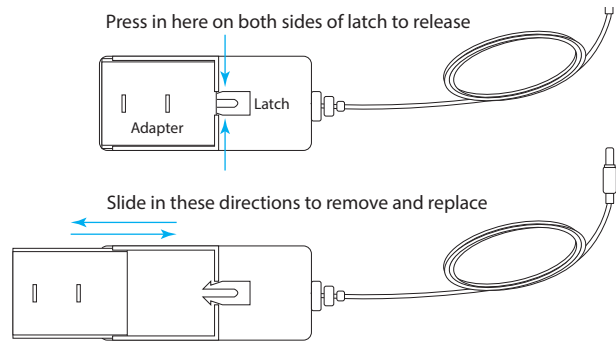

Fig. 5.4
1. Replace power adapter (P/N: CON-00004) to match your country's outlet by using your thumb and forefinger to squeeze in on both sides of the latch (see Fig. 5.4).